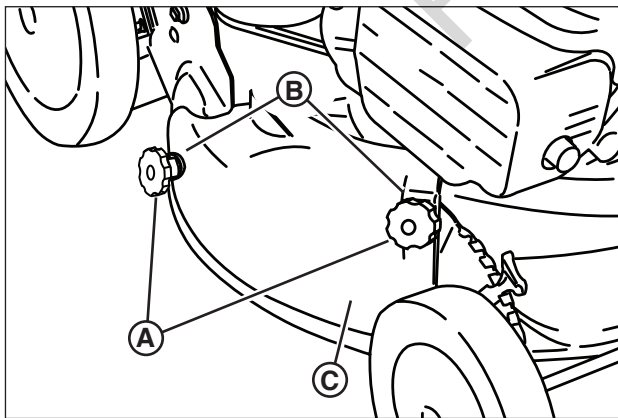

Figure 8: Removing the mulching cover
1. Remove the knob nuts (A, Figure 8) and internal/external tooth lock washers (B) securing the mulching cover (C) to the mower deck.